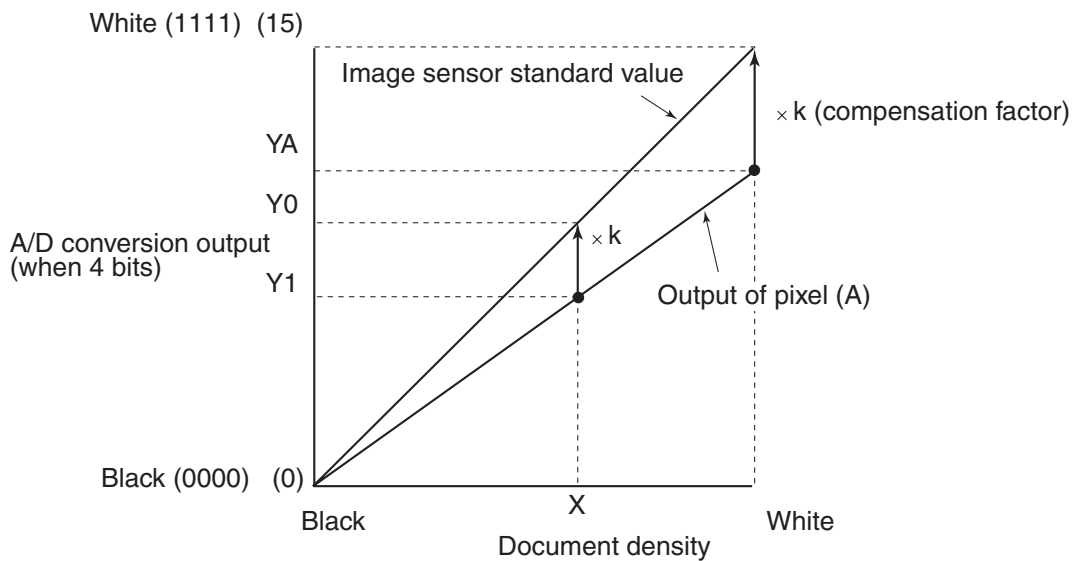

Figure 2-511
Figure 2-511 shows the output of an element (A) of the image sensor when the document density changes from black to white, and the output of the standard